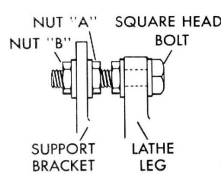

Figure 9
14. Turn lead screw by hand, shifting quick-change housing until lead screw turns freely, then tighten the two screws (A) securely. Recheck to make sure lead screw turns freely.
15. Screw nut (A, fig. 9) and washer against support bracket by hand – DO NOT use wrench.
16. Tighten nut (B) and washer against support bracket securely.